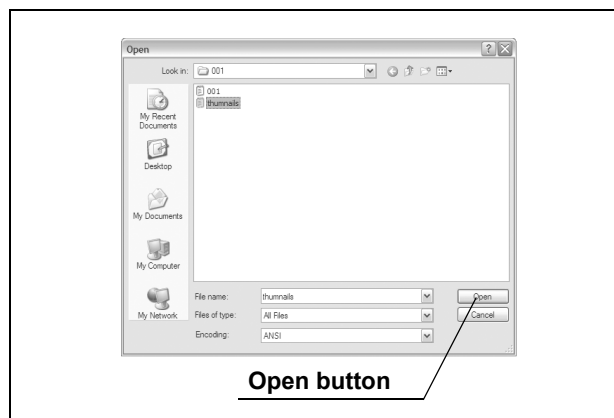

Figure 6.14
3. Select the thumbnail data (***.xml), and click the [Open] button (see Figure 6.14). The thumbnail data is opened.